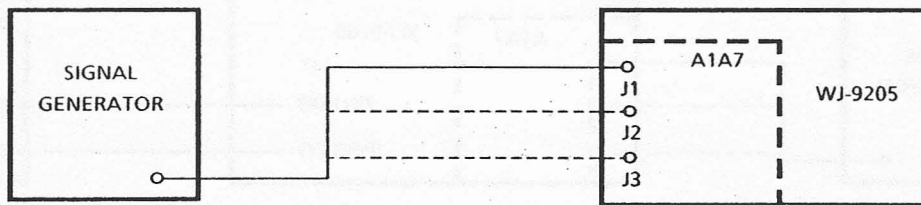

Figure 4-2. Input/Output Performance Test, Equipment Connections
- 1. Connect the test equipment as illustrated in Figure 4-2. Set the signal generator for a 21.4 MHz, -90 dBm, CW output.
1. Connect the equipment as illustrated by the solid line in Figure 4-2. Set the signal generator for a 21.4 MHz, -40 dBm, CW output signal.
1. Connect the test equipment as illustrated in Figure 4-2. Set the signal generator for 21.4 MHz, CW, with an output level to produce a signal on the CRT at the top graduation with 0 dB attenuation.